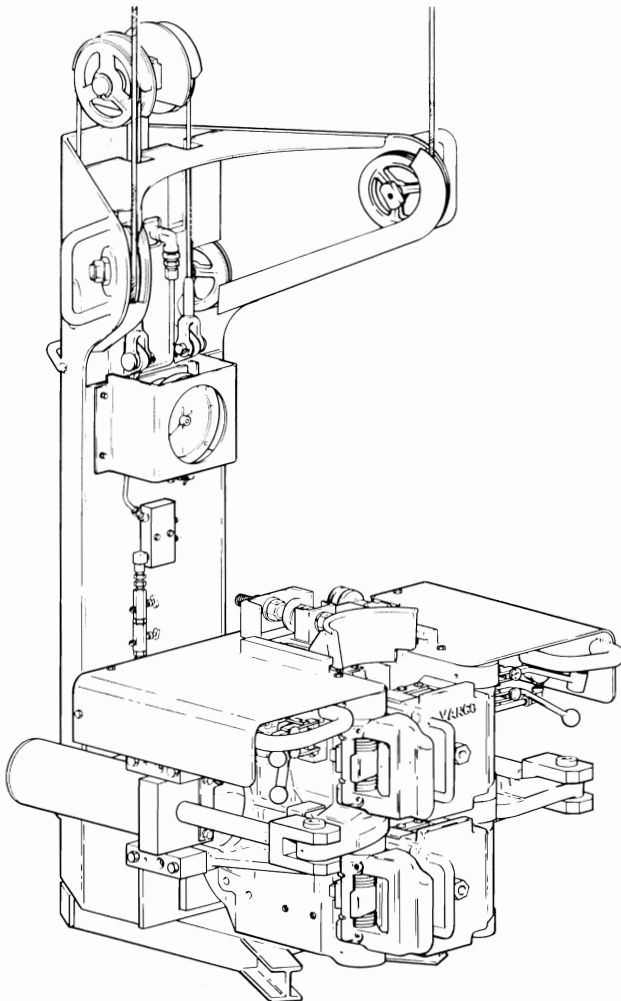

Figure 1-1. TW-60 Torque Wrench
- 1-5. The TW-60 torque wrench consists of an upper and lower gripping body, and a vertical positioning system (Figure 1-1).